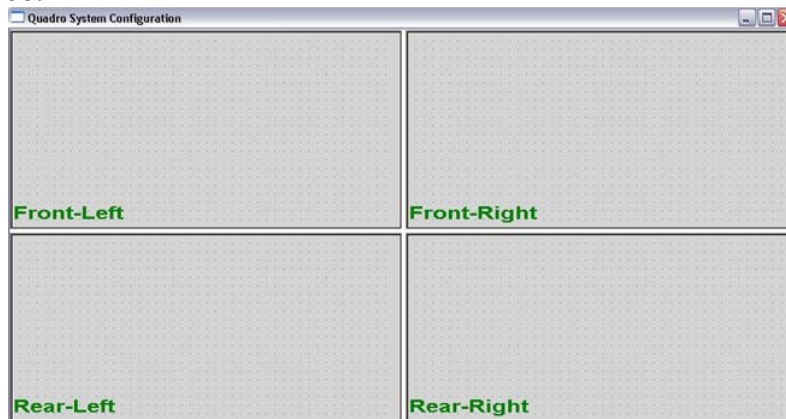

Figure 68. Blank Quadro CAD screen.
- BLANK Stereo, Home Theater and Quadro:** These options provide a blank schematic for 2, 4 or 6 channel system allowing the user to set up a filter structure to meet his special needs. The only limitation are that there can be no more than 6 sound card inputs and 16 outputs, providing such hardware capability is installed on the PC. An example for a blank Quadro is shown in Figure 68.